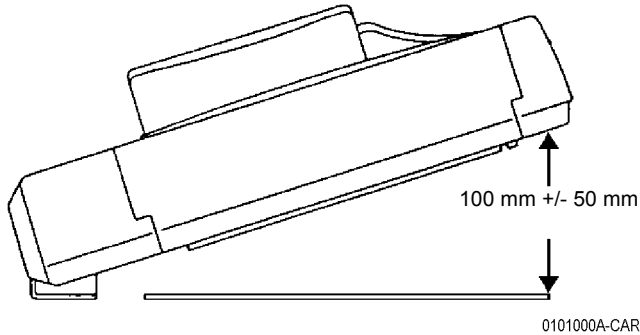

Figure 1 Checking DADF Height
- b. Check that the DADF closes from a height of 100 ± 50 mm by its own weight without excessive noise (Figure 1).